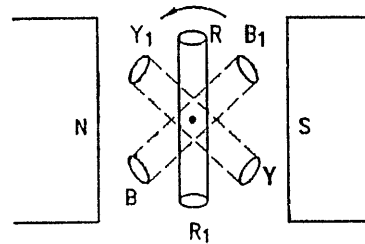

FIG. 2.75 : GENERATION OF 3-PHASE EMF
- Consider an elementary 3-phase, two pole A.C. Generator as shown in Fig. 2.75.
- Consider the position of the coil RR_1 as shown in Fig. 2.75. In this position emf in the coil $R R_1$ is zero.
- The emf in the coil becomes maximum when the coil has moved through 90° from the position shown in Fig. 2.75.